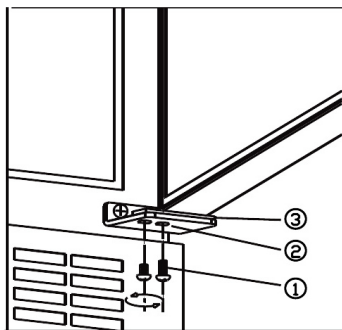

fig. 6.1
- Dismount the screws (1) **SUPPORT THE DOOR!** See fig. 6.1